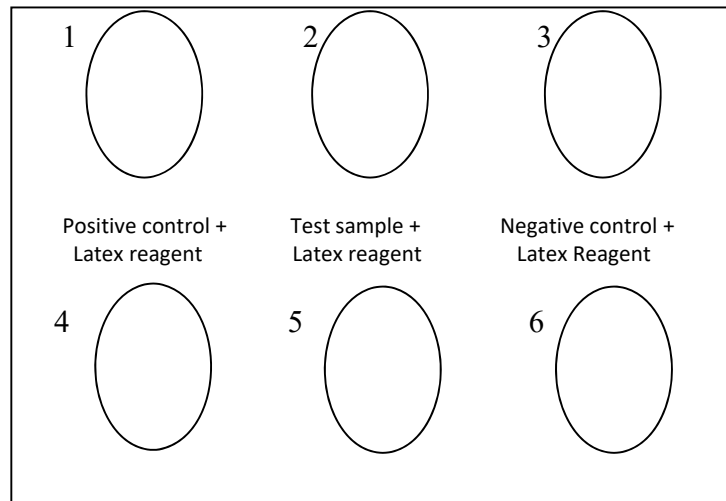

Fig 1: Diagrammatic representation of RA test
2. Take 10µl of test serum sample on one of the latex disposable slide circle (As shown in fig.1).